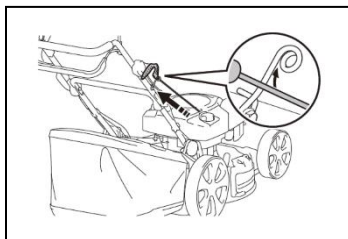

Fig. 5
- Move the starter handle from the engine to the rope guide. Fig.5